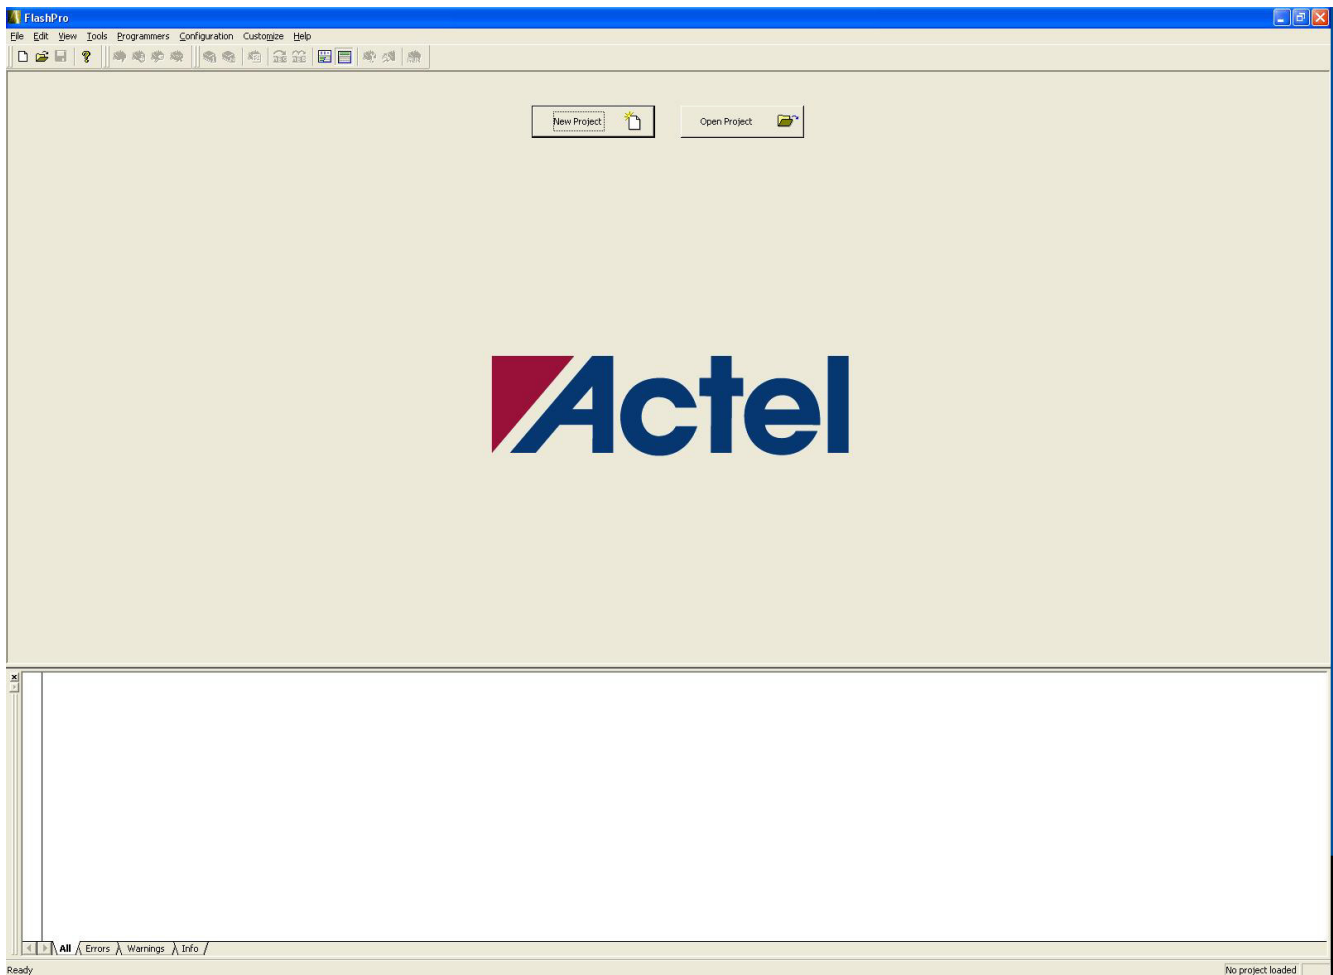

Figure C-2 · New Project
2. Create a new programming project (Figure C-2).